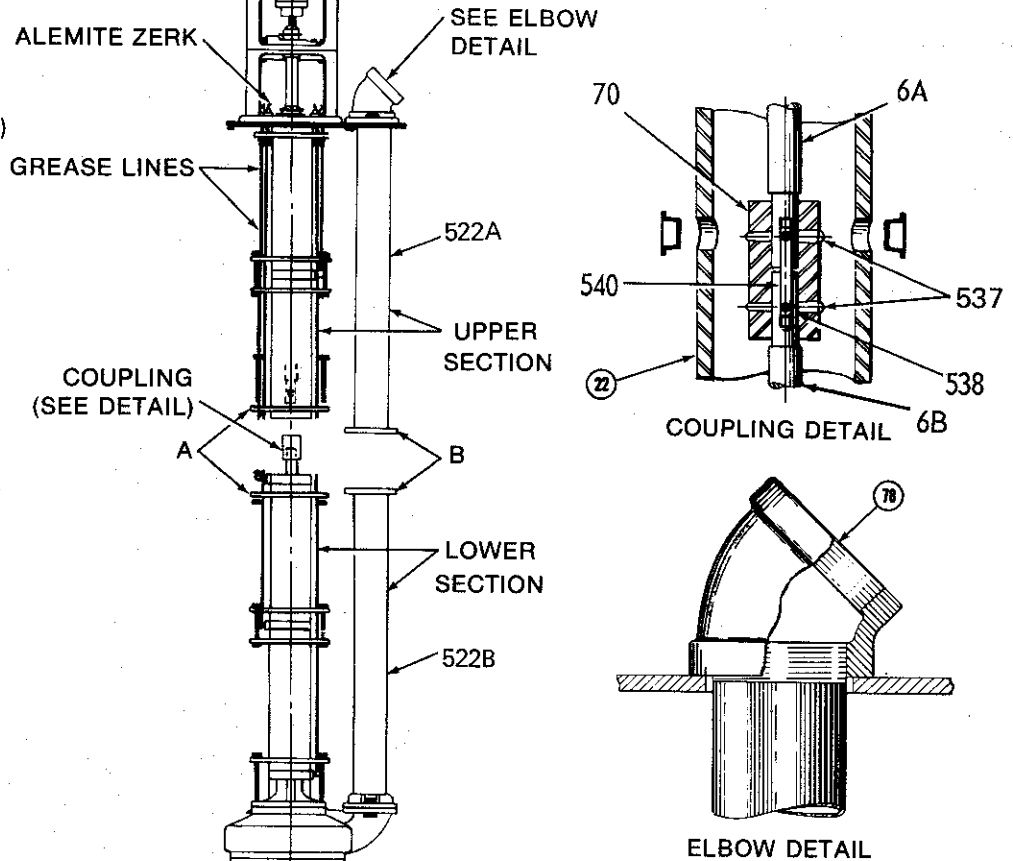

Figure 7. Two-Section Sump Pump
3. Remove the two cap plug protectors (figure 7) from the hanger pipe (508). The two cap protectors are located 180° apart and are at the point where the shaft is coupled together near the middle of the pump.
4. Turn the upper shaft (6A) until the small end of the taper pin (537) in the shaft coupling (70) is in line with one of the holes in the hanger pipe.
6. Remove cap screws from the bearing cap (503). Do not disturb setting of lock nut (501) and bearing adapter (170).
7. Raise shaft approximately 4 inches so that the lower end of the upper shaft (6A, figure 7) clears the top of the coupling (70). Block in place with a 4-inch piece of wood between the bottom of the bearing (515) and the bearing pedestal (81) to keep shaft in a raised position.
8. Unbolt the flange connection in the pump discharge line at point B (figure 7), and temporarily secure to the hanger pipe.
9. At hanger pipe A (figure 7), which is the joint closest to the opening left by the removal of the cap-plug plug, remove bolts and nuts joining hanger pipe and intermediate bearing assembly, and remove lower section of pump.
10. Remove lower section of discharge pipe (522A, figure 7) from packing flange (530), by using a pulling twisting motion.
11. To remove upper section of discharge pipe from discharge elbow (516B, figure 7) unscrew with counter-clockwise turns as viewed from point B.
**DISASSEMBLY:** Mark hanger pipe (508), flanges prior to disassembly for grease line (532) locations, and proper hanger pipe location (hanger pipes are usually not the same length).